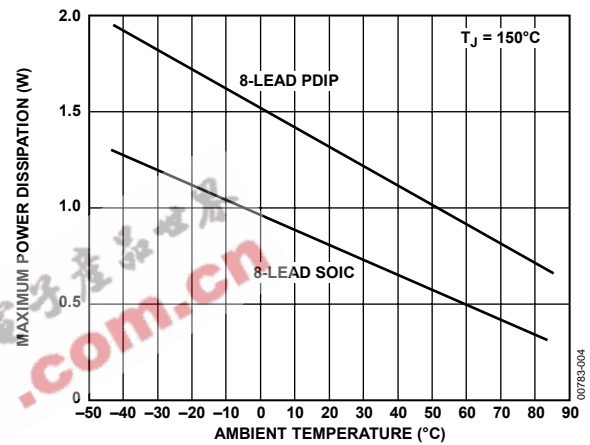

Figure 4. Maximum Power Dissipation vs. Temperature for SOIC and PDIP
| 8-Lead PDIP (N)                         | See Figure 4                     |
| 8-Lead SOIC (R)                         | See Figure 4                     |